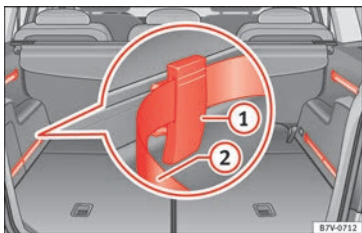

Fig. 168 In the luggage compartment: system including rails, adjustable attachment elements ① and adjustable tightening straps ②.
• Fit the attachment element with the ruts facing upwards » Fig. 168 ① to the upper part of the guide and press downwards.